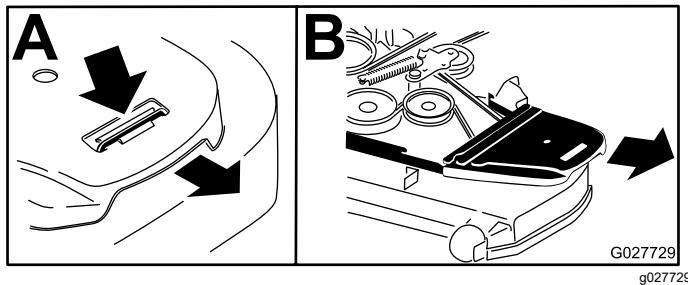

Figure 4
2. Remove the right belt cover (Figure 4).